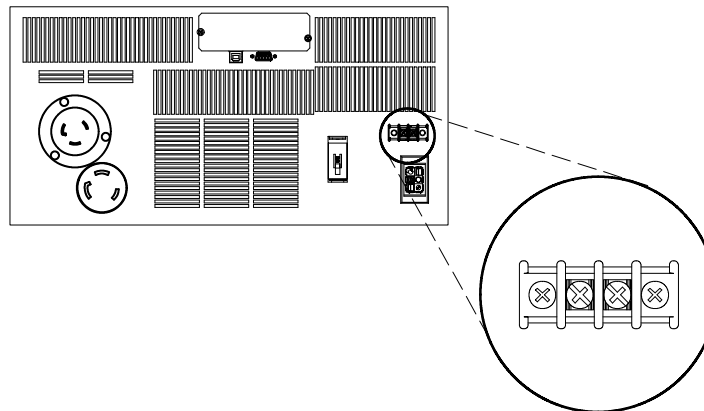

Figure 11. REPO Connector
2. Connect the switch or circuit to the REPO connector on the UPS rear panel using insulated 18–20 AWG (0.75 mm²–0.5 mm²) wire (see Figure 11).